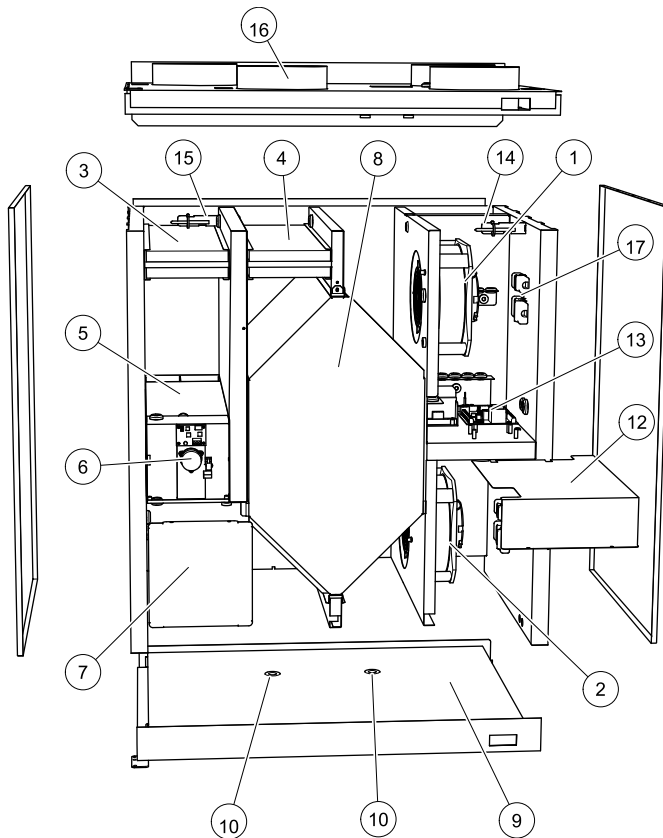

Fig. 15 Components
The fans (pos. 1 and 2 figure 15) have external rotor motors of EC type which can be steplessly controlled individually 20–100%. The motor bearings are life time lubricated and maintenance free. It is possible to remove the fans for cleaning, see “User Manual” for more information.
The built in bypass damper (pos. 5 figure 15) is involved in defrosting, cool recovery, and supply air temperature regulation of the unit. The damper motor is controlled by an analogue 0–10 V signal.
Depending on the relative humidity in the extract air, condensation may occur on the cold surfaces of the heat exchanger. The condensate water is gathered in the condensation tray (pos. 9 figure 15) in the bottom of the unit and is led out through the drainage (pos. 10 figure 15) which are situated on each side of the heat exchanger. The drainage outlets are size ½” with outer threaded tube connections (chapter 4.3.1).
The main print card (pos. 13 figure 15) controls the functions and set temperatures of the unit. It is possible to connect external accessories to terminals in the print card. See wiring diagram for more information.
- Supply air sensor (pos. 14 figure 15)
- Outdoor air sensor (pos. 15 figure 15)
- Extract air sensor (pos. 16 figure 15).
Fans do not start	<ol style="list-style-type: none"> 1. Check the display for alarms. 2. Check that all fuses and fast couplings are connected (mains supply and fast couplings for supply and extract air fans, pos. 16 figure 15). 3. Check that the week program is in ON mode. The week program might be in OFF mode with the fan speed set to OFF (chapter 6.3). 4. Check if one of the digital inputs 1–3 (DI 1–3) is active and set to off. This would force one or both fans to stop depending on the setup (chapter 6.4).